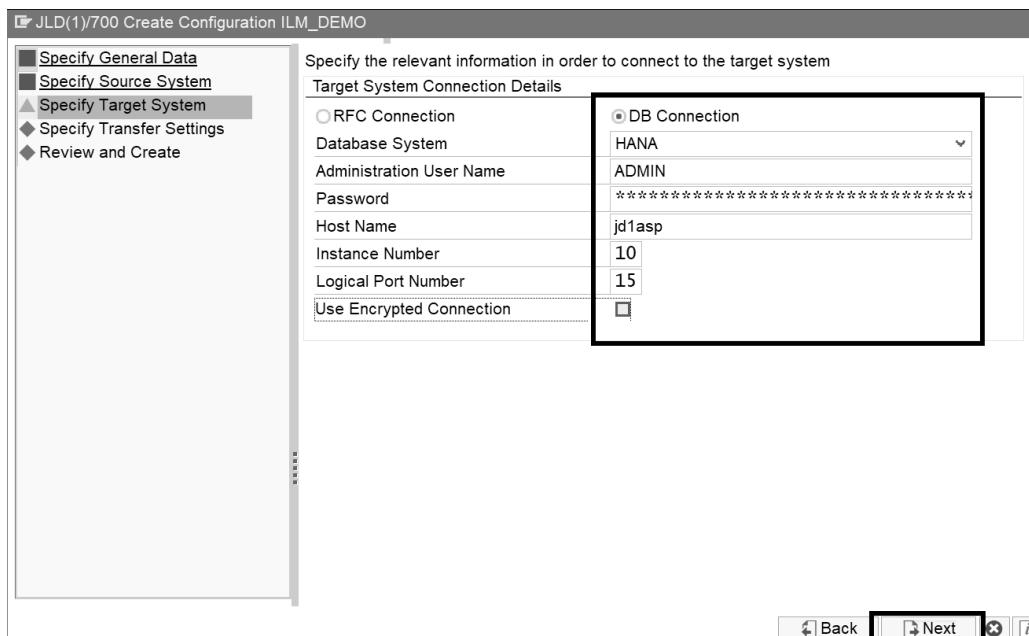

Figure 8.7 Creating a Configuration: Specifying the Target System as an SAP System
9. Next, you can make entries for the target system. To do this, activate the **DB Connection** radio button (see Figure 8.7), and then describe the properties of the target system.